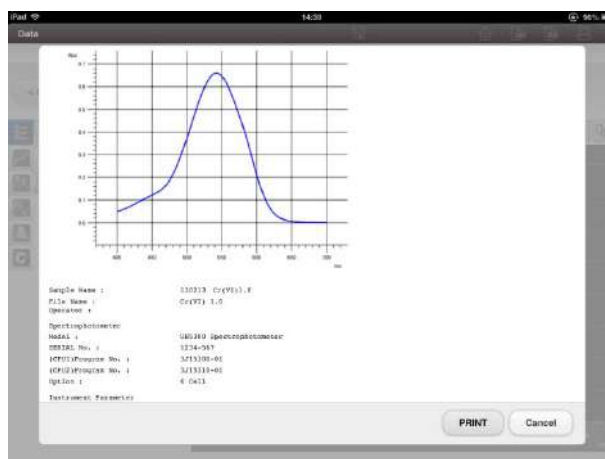

Fig. 4-86 Print Preview Window
- (3) Print preview (Fig. 4-86) will be shown.